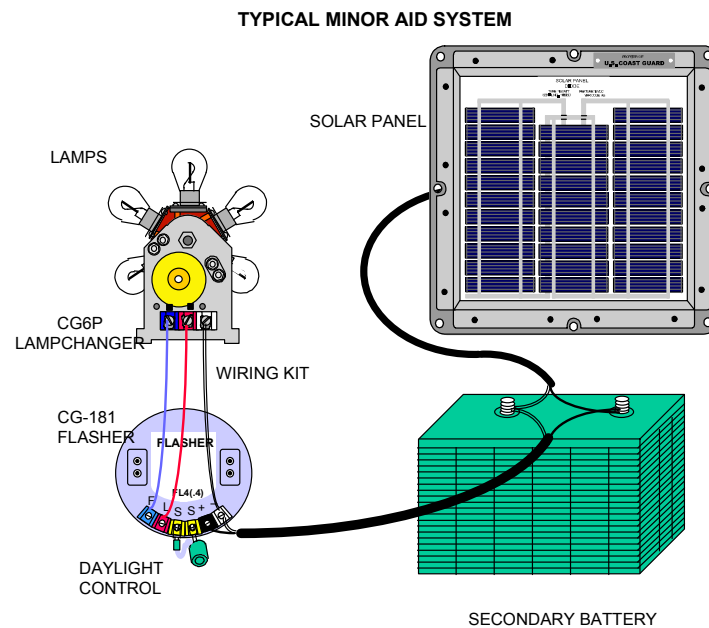

Figure 1-1
1. Minor Aids. With the addition of the appropriate lantern, the components shown in Figure 1-1 are used on buoys, structures and nighttime ranges with single lights. Rotating beacons and high intensity nighttime ranges will have the same lighting equipment, however larger batteries and more solar panels may be used.